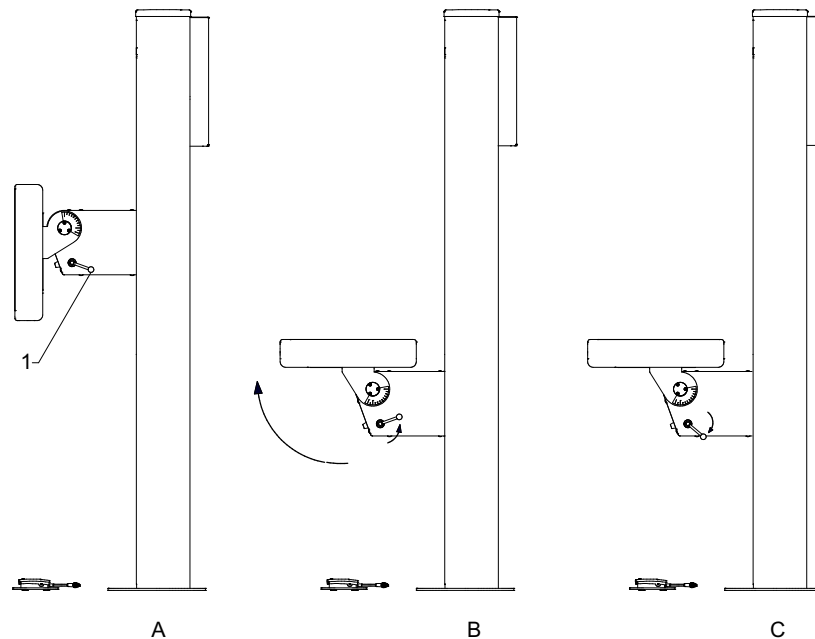

Fig. 4-21 Tilting detector holder
To position the handle (See pos.1 in Fig. 4-21, in its start position: